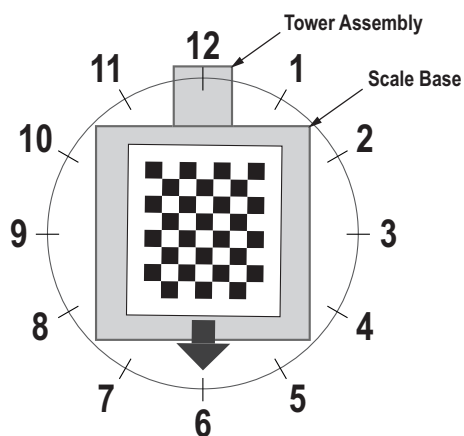

Figure 5-10. Rotate to 6 o'clock
9. Align calibration object so the cross hairs are centered. Rotate the calibration object to 6 o'clock with the tower assembly being at 12 o'clock (Figure 5-10).